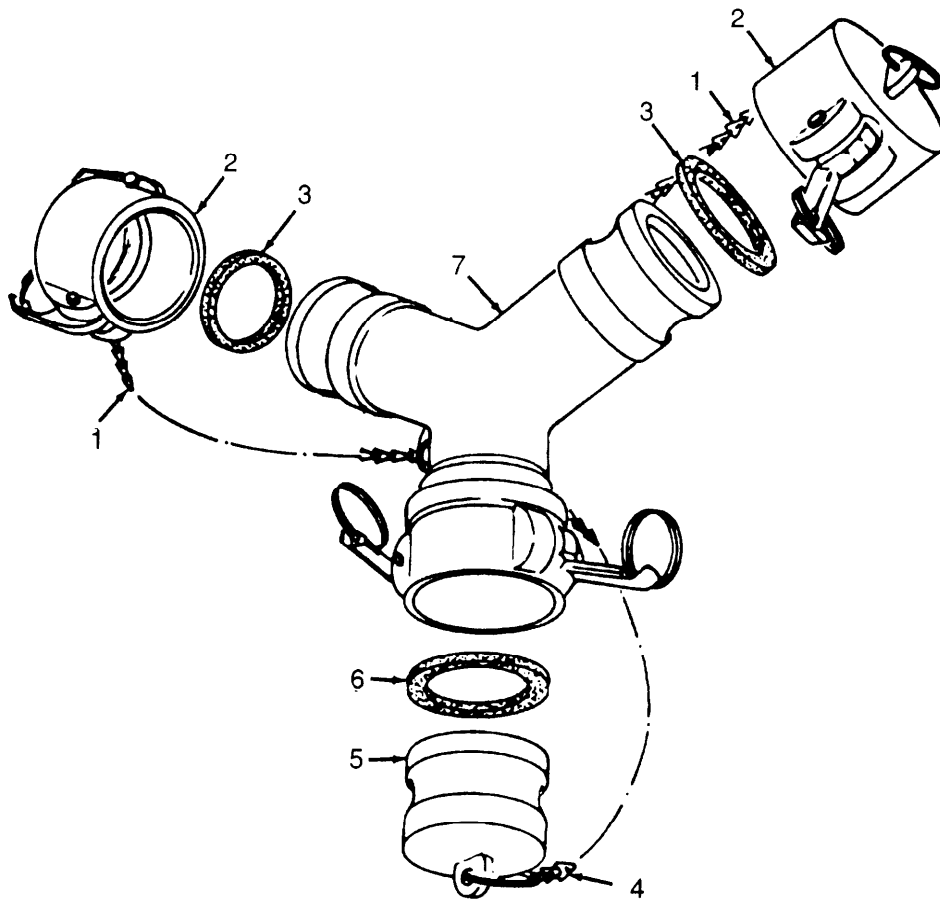

Figure 4-19. Wye Fitting Assembly, Disassembly/Reassembly.
e. Disassembly. (Refer to Figure 4-19.)
- (1) Disconnect chain (1) and remove two dust caps (2) and two gaskets (3). Discard gasket.
- (2) Disconnect chain (4) and remove dust plug (5) and gasket (6) from wye fitting (7)
- (1) Refer to Figure 4-19 and install new gasket (6) and dust plug (5) on wye fitting (7). Connect chain (4).
- (2) Install two new gaskets (3) and two dust caps (2). Connect two chains (1).